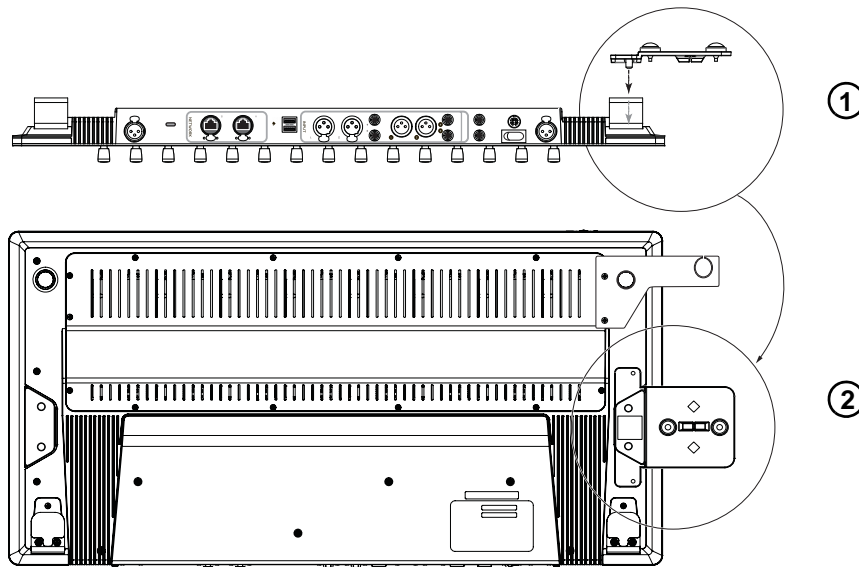

Figure 6. Attaching the Link Plate to S3
- Orient the Link Plate and align its pins with the holes in S3 as shown below (1 in Figure 6), then place it against the underside of the S3 (2 in Figure 6).